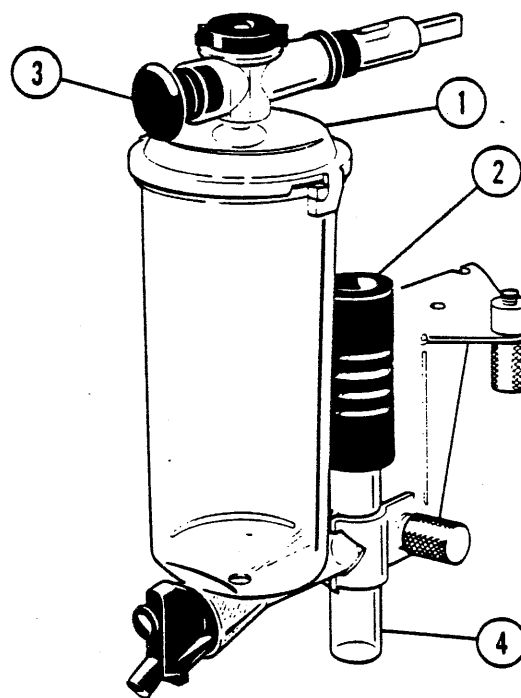

Figure 2. Butterfat Sampler
The butterfat sampler is not designed for cleaning in place. Prior to installing the butterfat sampler, be certain that it has been properly cleaned and sanitized and the milking system has been shut off. Attach the sampler top cover (1, Figure 2) and the short coupling tube (2) to the sampler before attaching it to the milk meter.